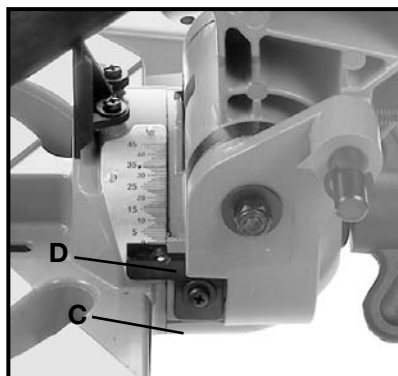

Fig. 24
2. Positive stops are provided to rapidly position the saw blade at 90 and 45 degrees to the table. Refer to the section of this manual titled **“Adjusting 90 and 45 degree bevel positive stops.”** The bevel angle of the cutting arm is determined by the position of the pointer (C) Fig. 24, on scale (D).